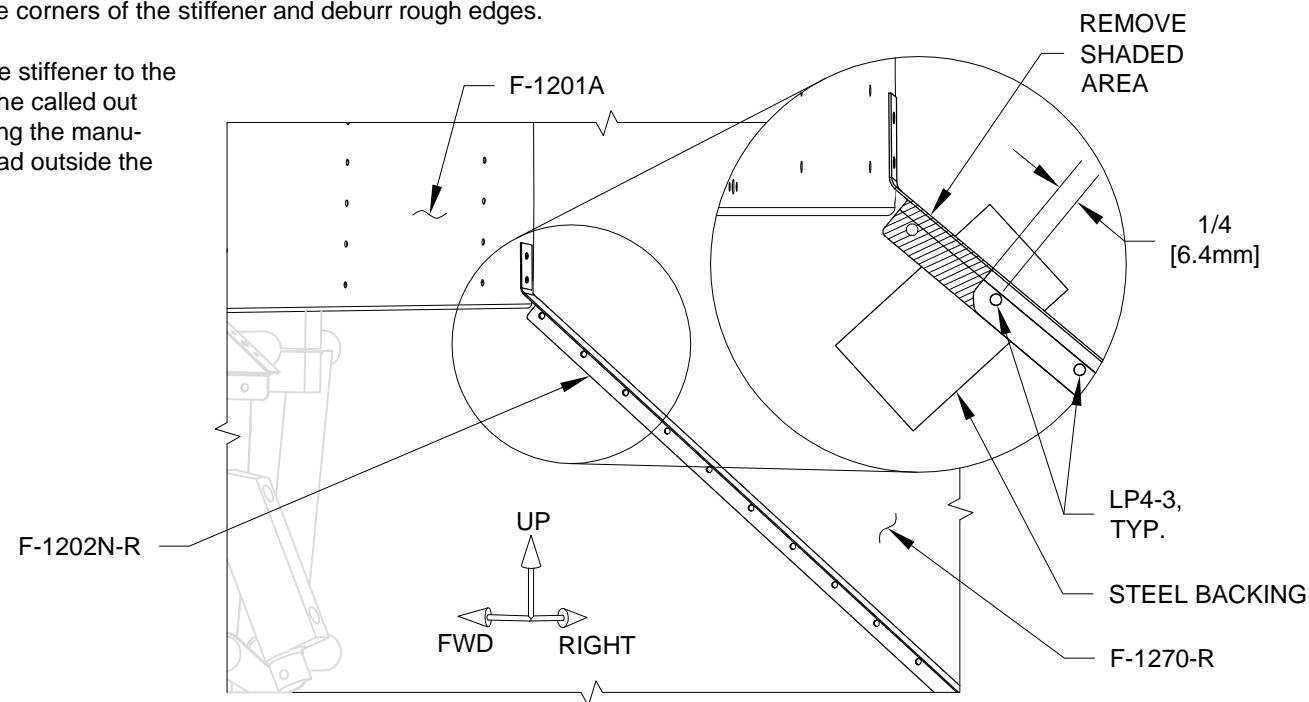
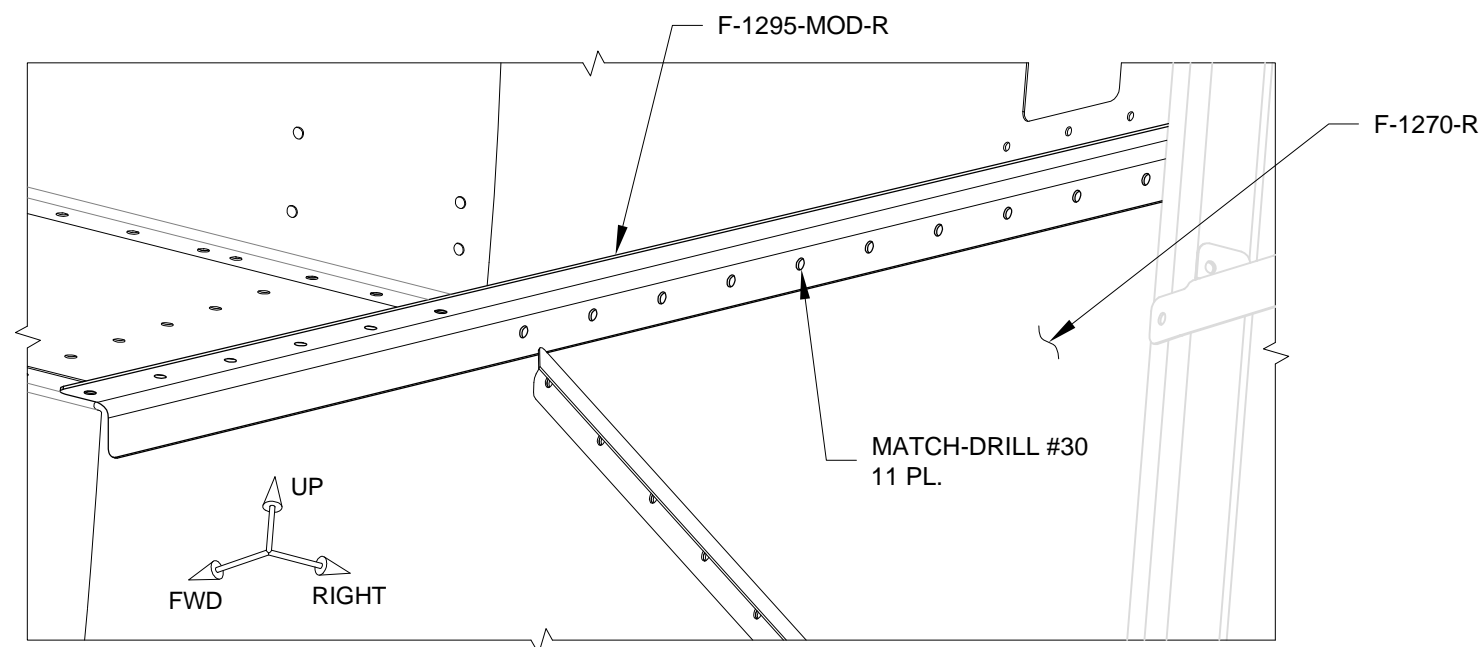

FIGURE 1: MODIFY SKIN STIFFENER
FIGURE 3: MATCH-DRILL SIDE SKIN
Step 3: Match-drill #30 the F-1270-R Fuselage Side Skin using F-1295-MOD Skin Stiffener holes as guides. See Figure 3. Refer to Page 54-06, Figure 1 and make sure the aft end of the angle is properly positioned using the dimension then drill the aft-most hole first. Insert clecos along the way.
Drill four #30 holes through both shelf and stiffener from above at the four new hole locations marked earlier. See Page 54-04, Figure 3. Insert clecos along the way.